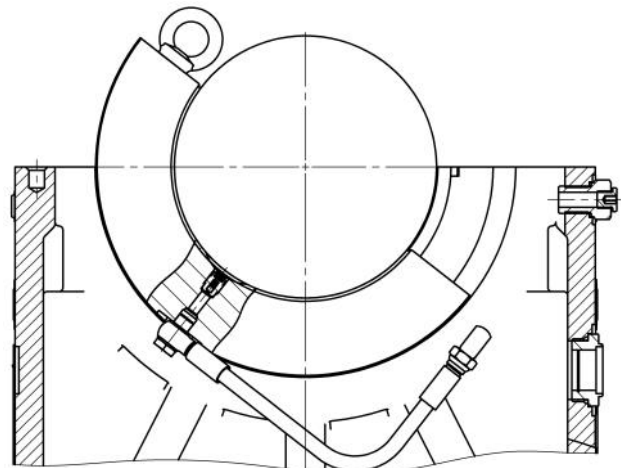

Fig. 62
- Lower part of bearing shell can be taken out sidewise (Fig 62).